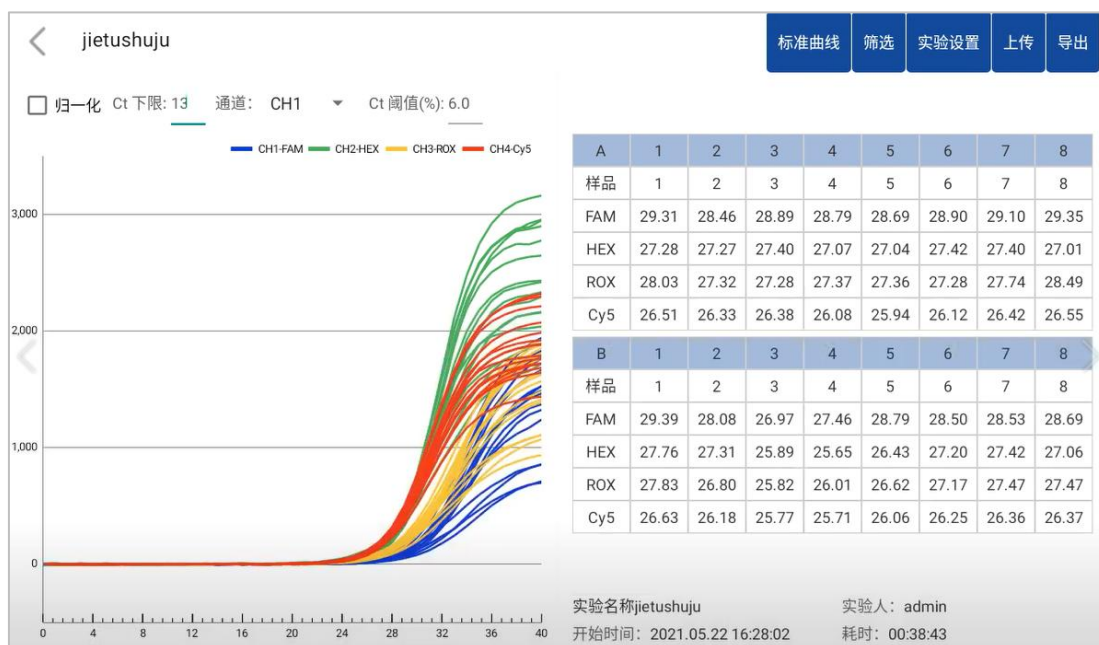

Figure 4.5-2 Result analysis interface
- 2) To view the amplification curve: click on the experimental data and enter the "Result Analysis" page, as shown in Figure 4.5-2.